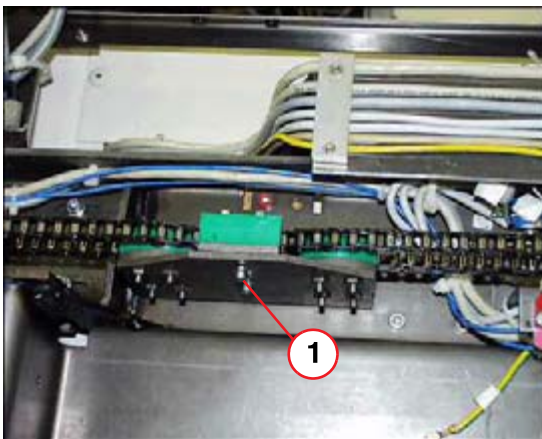

Fig. 16: Removing the transport safety device
- Remove the transport safety device below the chain guide for the transverse table drive (red screw) (1/ Fig. 16 / p. 18).